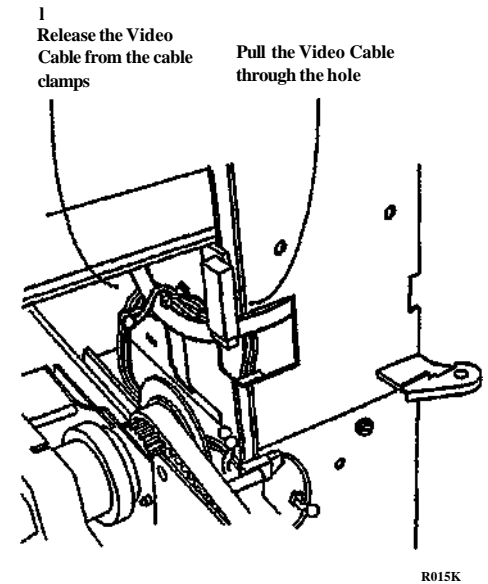

Figure 5. Preparing the Video Cable for Removal
11. (Figure 5): Release the Video Cable from the cable clamps and pull it through the hole in the frame.